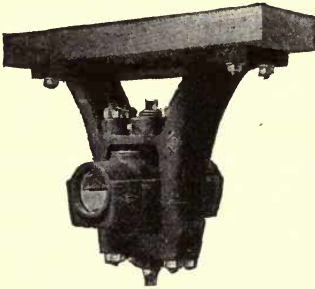

FIG. 140.—Heavy Head Shaft Hanger.
**320. Methods of Transmitting Power.**—The power that drives a machine is usually transmitted in one of three ways: (1) from a fly-wheel in the power house to a pulley on a main line of shafting in the shop and then to another pulley on a small shaft over each machine, called a countershaft; (2) directly from the pulley of an electric motor, located in the shop where it drives the main line of shafting; or (3) by means of gears from a separate electric motor attached to each machine. The first two methods are called power transmission by *shafting*, and the third is called power transmission by *separate motor* or “*individual drive*.”
**321. Arrangement of Shafting.**—The transmission of power by shafting is accomplished by means of pulleys and belts, or ropes attached to the shafts, which in turn are supported by hangers. Shafting consists of cylindrical bars of steel or wrought iron from  $1\frac{1}{2}$  in. to  $2\frac{1}{2}$  in. in diameter. The different lengths of shafting are connected by a device called a *coupling*. The shafting is supported by hangers attached to the ceiling (Fig. 140) and revolves through an opening in the hanger called a *bearing*. The part of the shaft which rotates in the bearing is called the *journal*. The bearing is encased in a soft metal called Babbitt metal, to reduce the friction to a minimum. Babbitt metal is white alloy of copper, tin, and antimony. The hardness of the